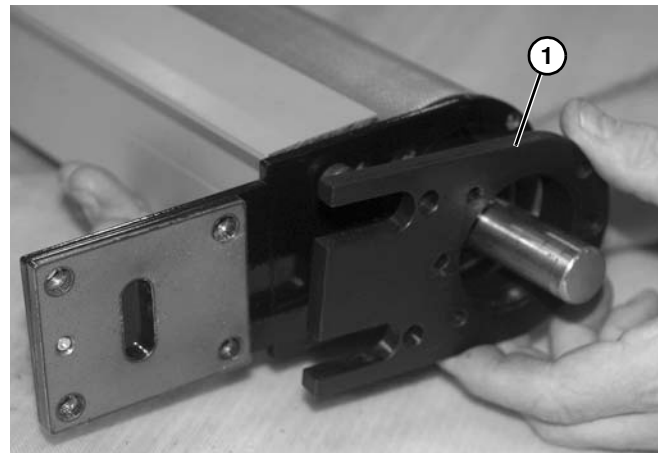

Figure 124
12. Remove bearing housing (Figure 124, item 1).